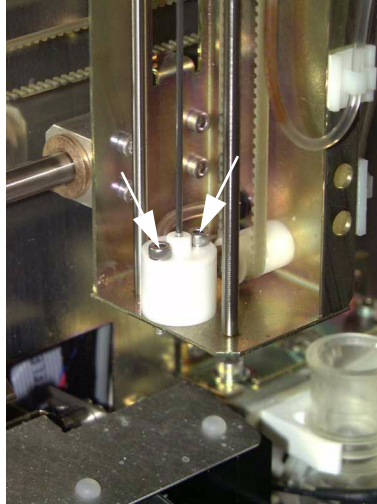

Fig.4: Rinsing block screws
- ◆ Unscrew the 2 screws of the rinsing block (See "Fig.4: Rinsing block screws, page 4").